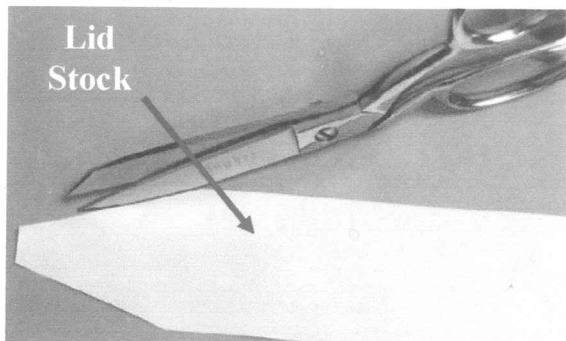

Fig. 4 – Trimming Material
1. Cut the end of the Lid Stock to look like a very blunt arrowhead (see Fig. 4).